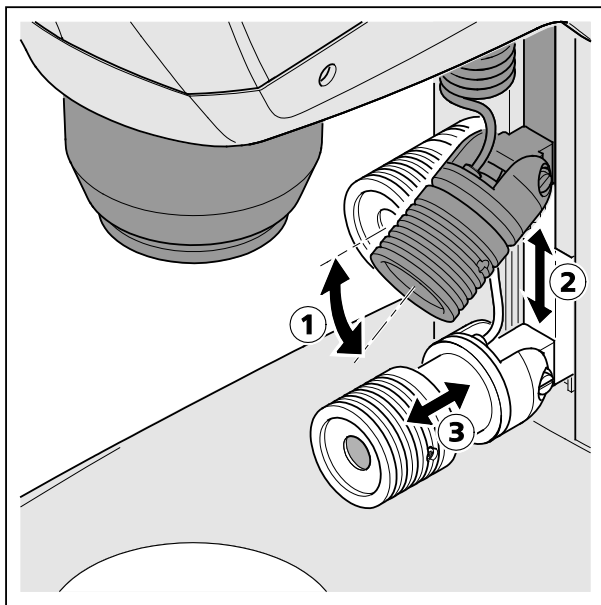

Fig. 16 Setting the spot illuminator
- Push spot illuminator in the guide to the required height (Fig. 16/2).
- Set the angle (Fig. 16/1) via the pivot of the spot illuminator so that the object is optimally illuminated.
- Set size and brightness of the spot by axially shifting the focusing unit (Fig. 16/3) (illumination zoom).